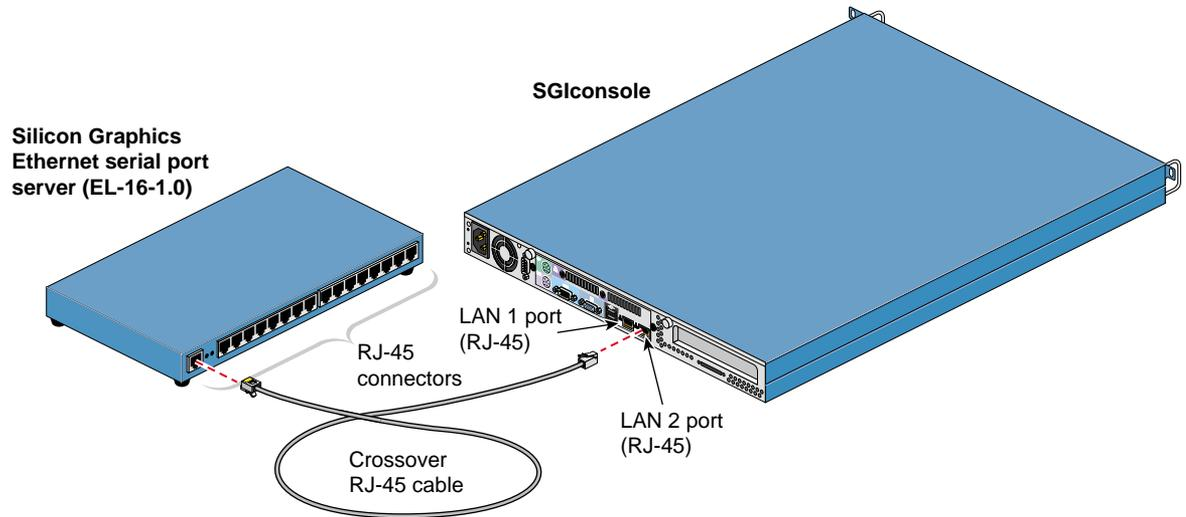

Figure 2-38 Connecting SGIconsole to the Silicon Graphics EL Serial Port Server
4. If you have not already done so, connect one end of the RJ-45 to RJ-45 crossover Ethernet cable to the **LAN 2** port RJ-45 jack on your SGIconsole, and connect the other end to the leftmost RJ-45 jack on the Silicon Graphics EL serial port server. See Figure 2-38.